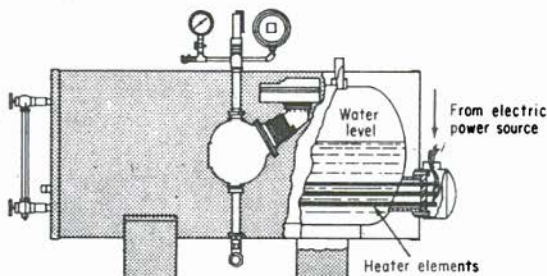

Fig. 6-8. Resistance-type electric steam generator.
1. Units with heating elements constantly submerged in water (Fig. 6-8). These elements do not depend on conductivity or resistance of the water for heating and steam generation.
While low-water-level controls are required for the boilers shown in Fig. 6-8, they are not needed for the second type. The reason is that they cannot generate steam when the water is low or when no steam is required. To ensure that the boiler carries the proper salinity, a conductivity control is generally supplied. This means that salts are added, or the unit is blown down, depending on the condition of the water. All electric boilers should be built in accordance with the ASME Boiler Code and also approved by Underwriters Laboratories.